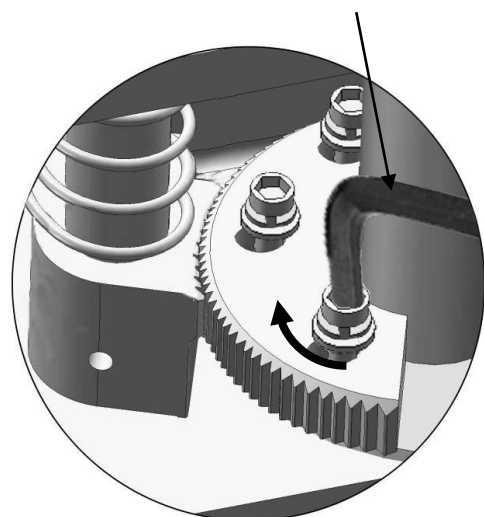

Fig. 33
4. Adjust moon gear and arm lock to make it to be meshed, then tighten the socket bolts of arm lock (**See Fig.33**).